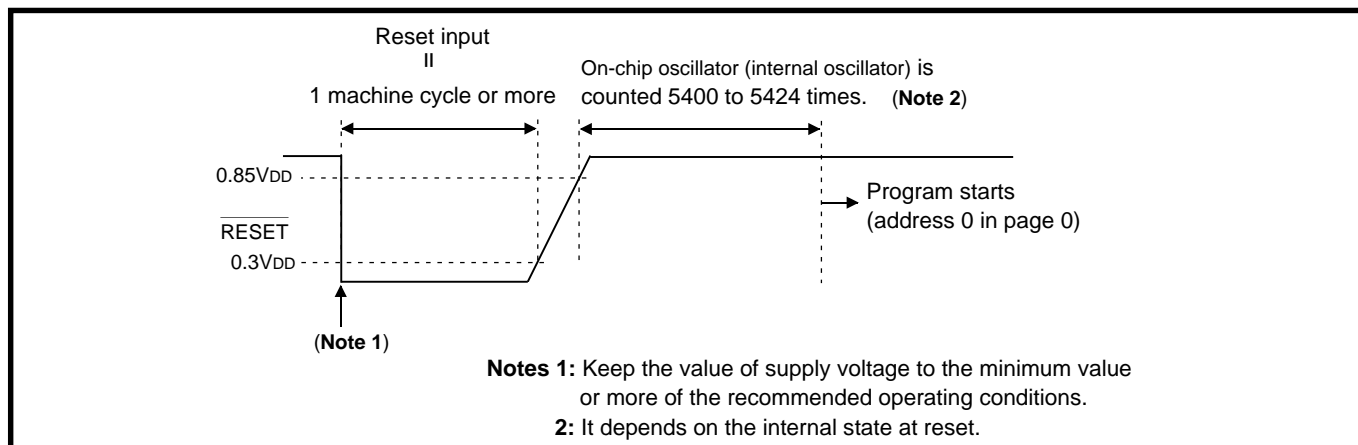

Fig. 2.7.2 Oscillation stabilizing time after system is released from reset
- the value of supply voltage is the minimum value or more of the recommended operating conditions. Then when “H” level is applied to $\overline{\text{RESET}}$ pin, the program starts from address 0 in page 0 after elapsing of the internal oscillation stabilizing time (On-chip oscillator (internal oscillator) clock is counted for 5400 to 5424 times). Figure 2.7.2 shows the oscillation stabilizing time.